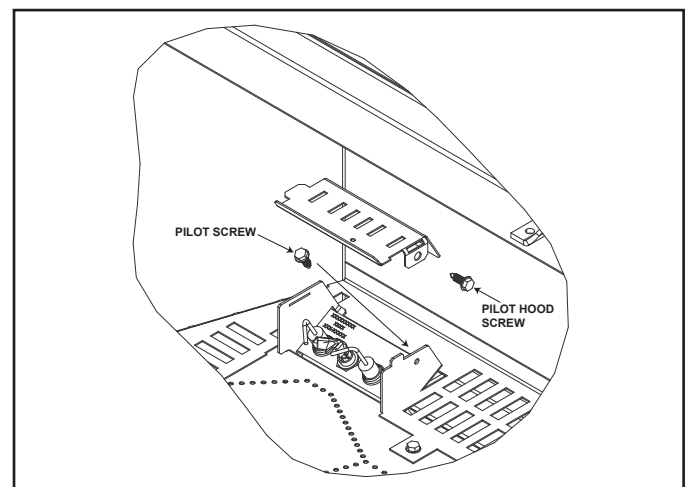

Figure 9.7
2. Locate the pilot hood. Remove the screw located on the right side of the pilot hood. Then separate the pilot hood from the pilot bracket. See Figure 9.7.
4. Locate the pilot. Remove the screw that holds the pilot to the pilot bracket. See Figure 9.7. **Carefully pull pilot up and out of the pilot bracket.**